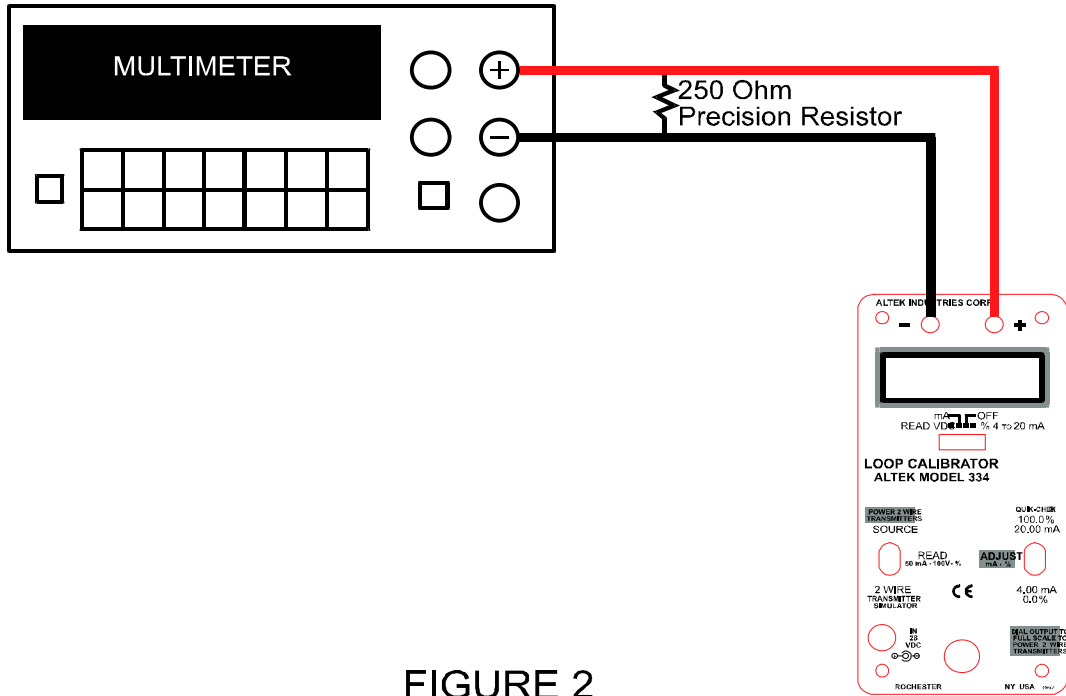

FIGURE 2
1. Connect the UUT to the DMM and 250 Ω standard as shown in Figure 2.
1. Connect the UUT to the DMM and 250Ω standard as shown in Figure 2.